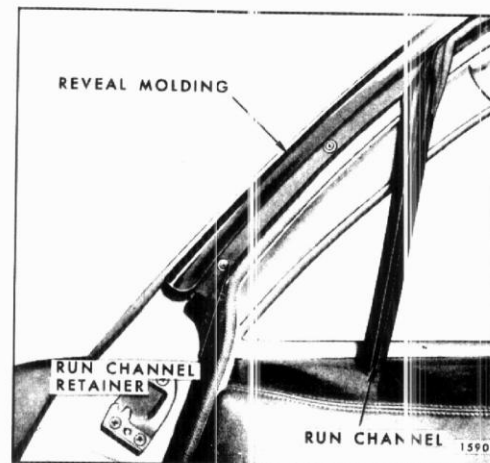

Fig. 9-63-Tail Gate Upper Glass Run Channel Retention
2. Once run channel has been removed, the retainer attaching screws are exposed. (See Fig. 9-63) The retainer can be adjusted by loosening attaching screws, shifting retainer to desired position and tightening screws. If retainer is removed, seal retainer with medium bodied sealer prior to installation.